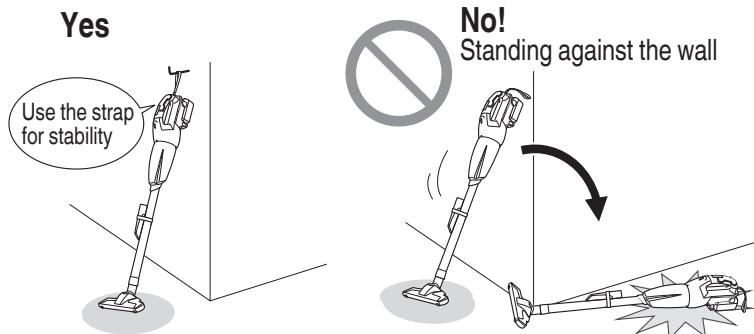

Fig. 29
- Do not stand the appliance against a wall without using the strap to fix it in place. (**Fig. 29**)